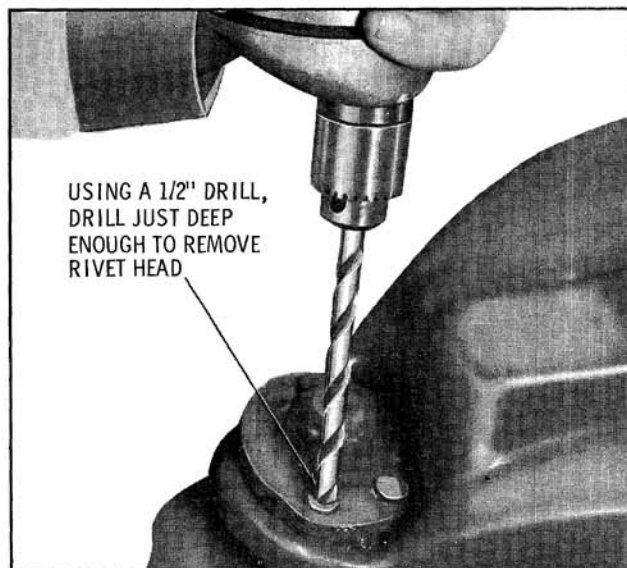

Fig. 9-18B Drilling Ball Joint Attaching Rivets
2. Using a 1/2" drill, drill the rivet heads just deep enough to remove the rivet head. (Fig. 9-18B)